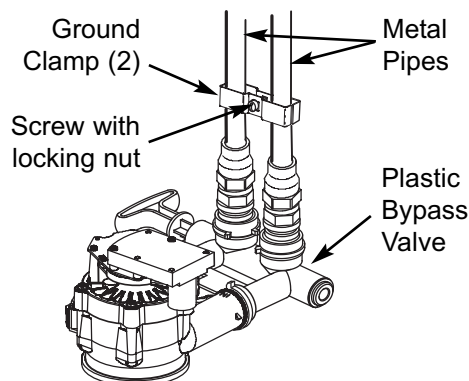

FIG. 6
2. Securely tighten connection in center of metal ground clamp (See Figure 6).